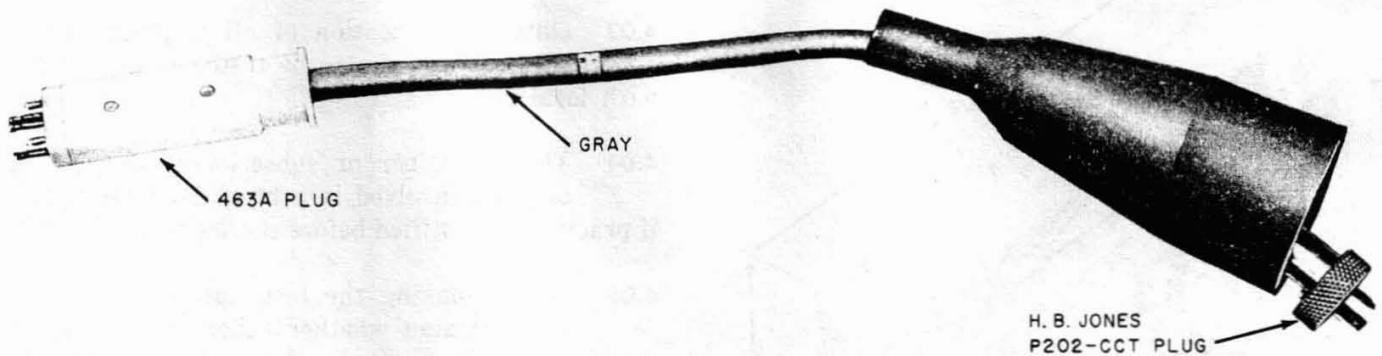
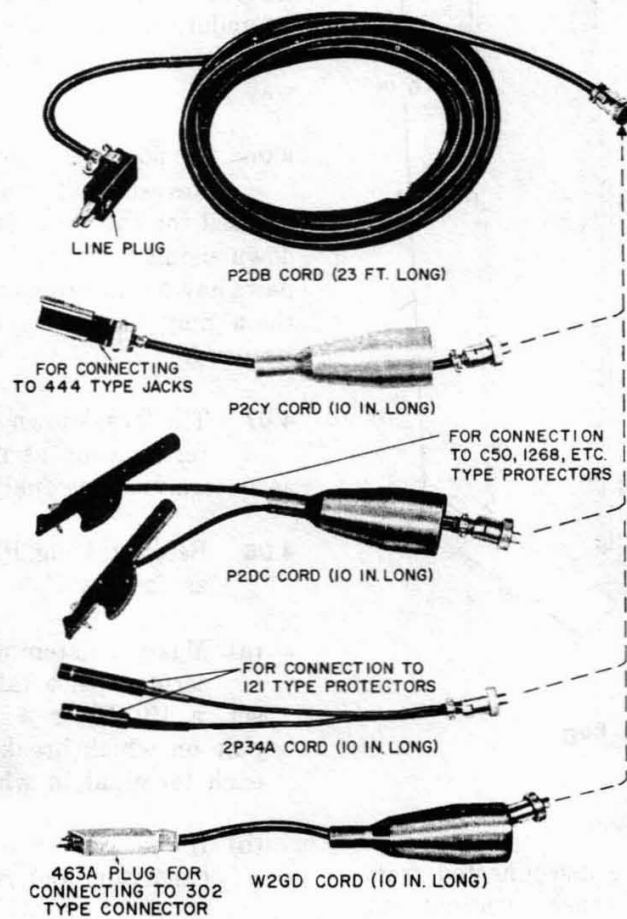

Fig. 3—W2GM Cord
Fig. 4—Cords Used With KS-14103 L5 Test Set
3.08 The W2GM cord in Fig. 3 and the cords illustrated in Fig. 4 are used to connect the KS-14103 L5 test set to conductors at a central